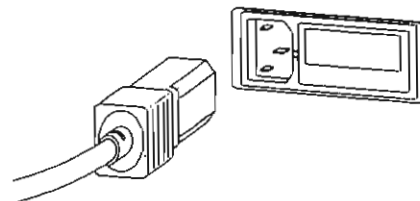

Figure 2-1. Recessed male receptacle.
- b. Connect the female end of the electrical power cable assembly into the recessed male receptacle (fig 2-1) in the back of the APS module. Then, insert the male connector of the electrical power cable assembly into a convenient electrical wall receptacle.